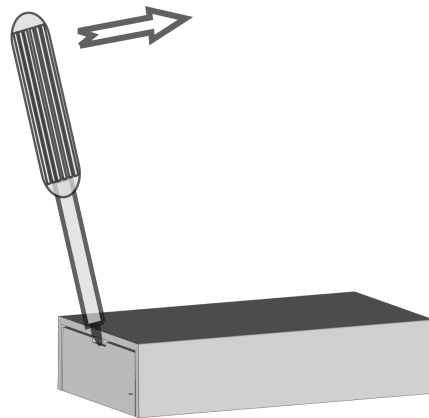

Figure 1: Open the housing
- Open the housing by sliding it apart. To do so, insert a thin slotted screwdriver into the opening recess (Figure 1) and raise it up so that two catches are passed.